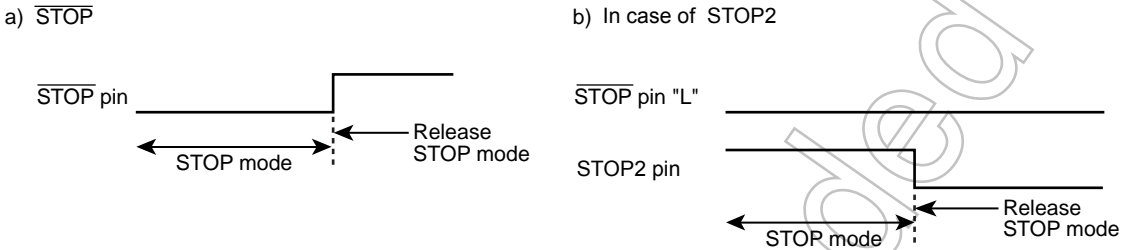

Figure 14-2 Priority of STOP pin and STOP2 pin
- Note 5: When the STOP mode is released by STOP2 pin, the level of $\overline{\text{STOP}}$ pin should hold "L" level (Figure 14-2).